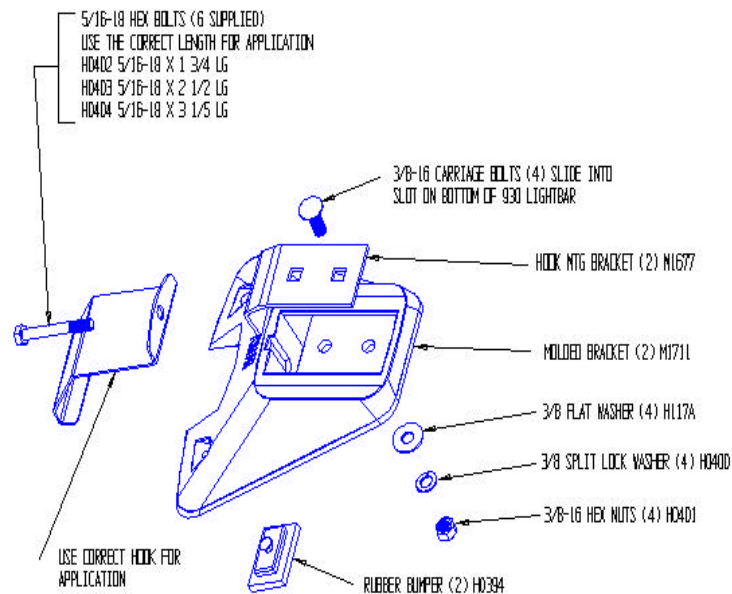

Figure 1
This instruction sheet provides procedures to install the 930-UNHK Hook Mounting System to the Tomar 930 HELIOBE Light Bar and mount the assembly to the vehicle. In order to complete the installation, you must have purchased the 930 HELIOBE Light Bar, a 930-UNHK Hook Mounting Kit, and the correct Hook Bracket pair for the vehicle. Consult Tomar Sales for the correct part no. for your vehicle. You should also have a completely assembled light bar with the correct lamp configuration you have ordered. Refer to Figures 1 and 2 on this sheet.
Check to see that all components shown in Figures 1 and 2 are included. You should also have one pair of the hook brackets to fit your vehicle. Check your packing lists carefully.
C. Install 2 rubber bumpers into the rectangular holes in the bottom of the molded bracket (see Figure 1). The molded rubber head on each bumper must be pulled through the hole in the bracket. Repeat for the second molded bracket.